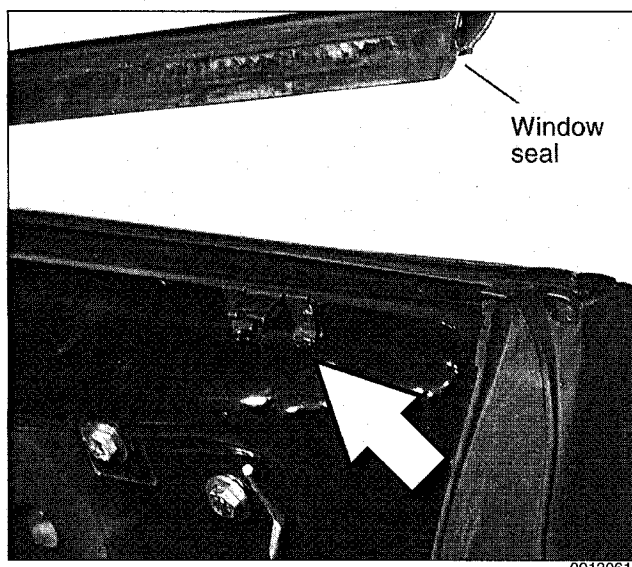

Fig. 9. Lift window inner sealing lip from door. Note metal retainer (arrow).
6. Lift up and remove window inner sealing lip. Remove all metal retainers under sealing lip. See Fig. 9.